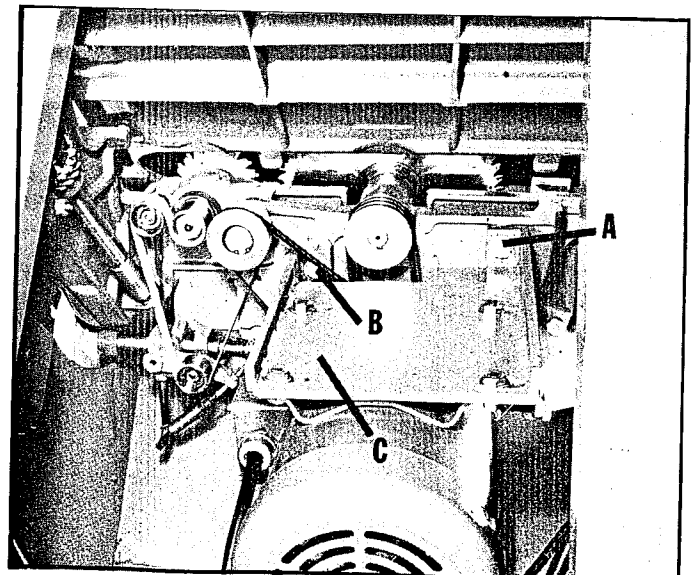

Fig. 56
1. To adjust V-belt tension, position the saw blade at a 45° cutting angle. Loosen bolts (A) and (B) Fig. 56. Press lightly on bracket (C) until belts are properly tensioned, and tighten bolts (B) and (A).